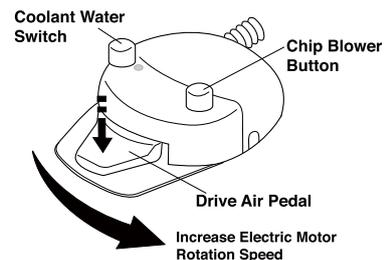

Fig.3-33 Electric Motor Foot Control (Type SE)
#### (2) Electric Motor Foot Control (Type SE) (Fig.3-33)